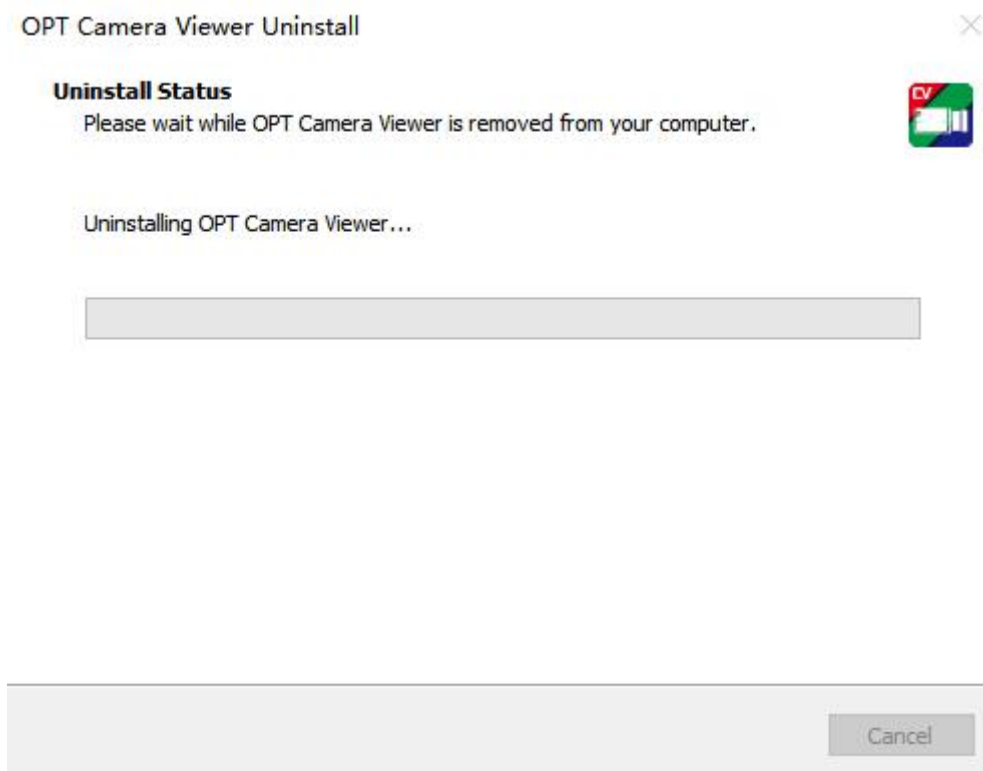

Figure 3-2 Unload Window
3. Enter the uninstall installation window as shown in Figure 3-2, and wait for the uninstall (if the driver has not been installed before, steps 2 and 3 are not required)